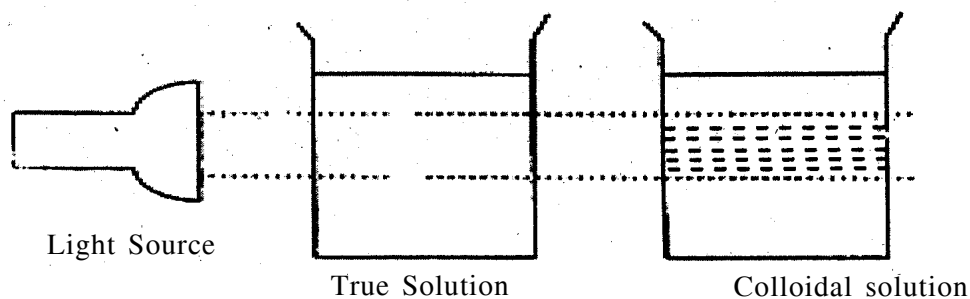

Fig. 10.6 : The Tyndall Effect (Path of light visible due to scattering)
- c) **Tyndall Effect** : Tyndall in 1869, observed that if a strong beam of light is passed through a colloidal solution then the path of light is illuminated. This phenomenon is called Tyndall Effect. This phenomenon is due to scattering of light by colloidal particles (fig. 10.6). The same effect is noticed when a beam of light enters a dark room through a slit and becomes visible. This happens due to the scattering of light by particles of dust in the air.